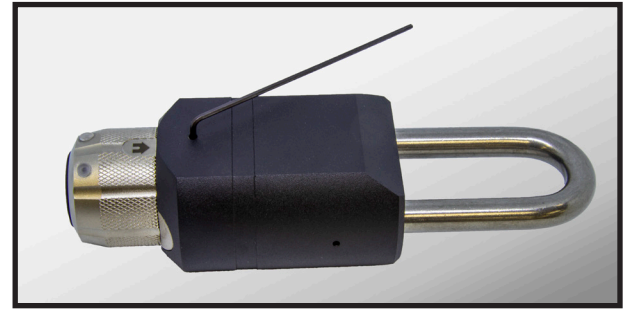

Figure 1: Allen wrench in Pin Hole
- 2) Insert a 1/16" Allen wrench into the hole on the back as shown in Figure 1.